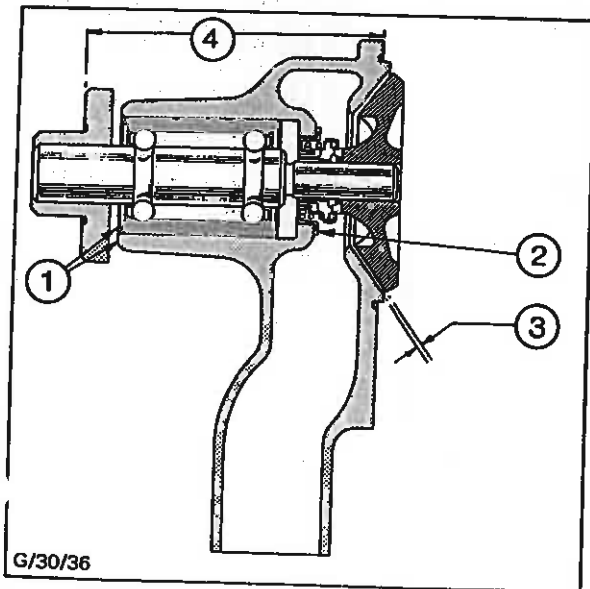

Fig. 3 - Water Pump Assembly for All Engines Except 2728T
The same standard pump can be fitted to 4 and 6 cylinder engines. It is designed for industrial applications and has a 25,4 mm (1,0 in) diameter shaft, heavy duty bearings and a 'cassette' type of seal. It can be fitted with a single or twin sheave drive pulley - refer to Fig. 3.
- a) Small diameter end of shaft innermost - see Fig. 3, 4 or 5 as applicable.
- b) Outer edge of outer bearing race to be flush with front edge of pump housing - see Fig. 3, 4 or 5 as applicable.
3. Stand the assembly on the pulley end of the shaft and press the impeller onto the shaft until the specified impeller to housing clearance is obtained - see Fig. 3, 4 or 5.
4. Place the pulley nose down on the bed of the press and align/insert the shaft squarely over the pulley/hub. Apply force onto the impeller end of the shaft (NOT the impeller) until the pulley/hub is set to the specified position - see Fig. 3, 4 or 5.